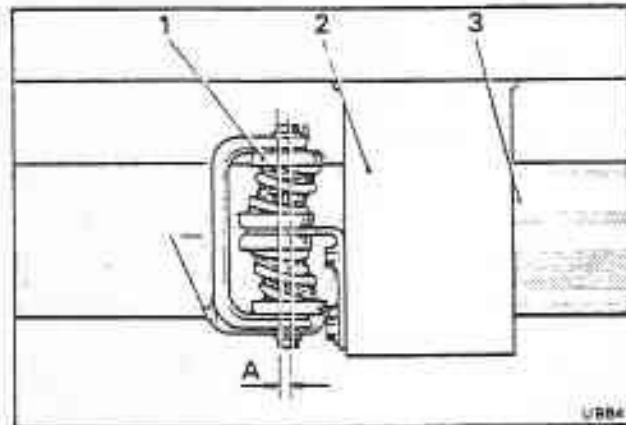

Fig. Q3-2 Exhaust mount pre-load
5. The resilient metal mounts must be set approximately 6.35 mm (0.250 in) forward to allow for expansion of the system (see fig. Q3-2).
5. The resilient metal mounts must be set approximately 6,35 mm (0.250 in) forward to allow for expansion of the system (see fig. Q3-2).